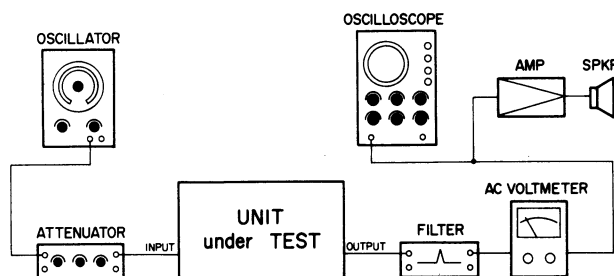

Fig. 5-11-3
- B. Test connection — Figure 5-11-3
- B. Connecting diagram : Refer to Fig. 5-11-3